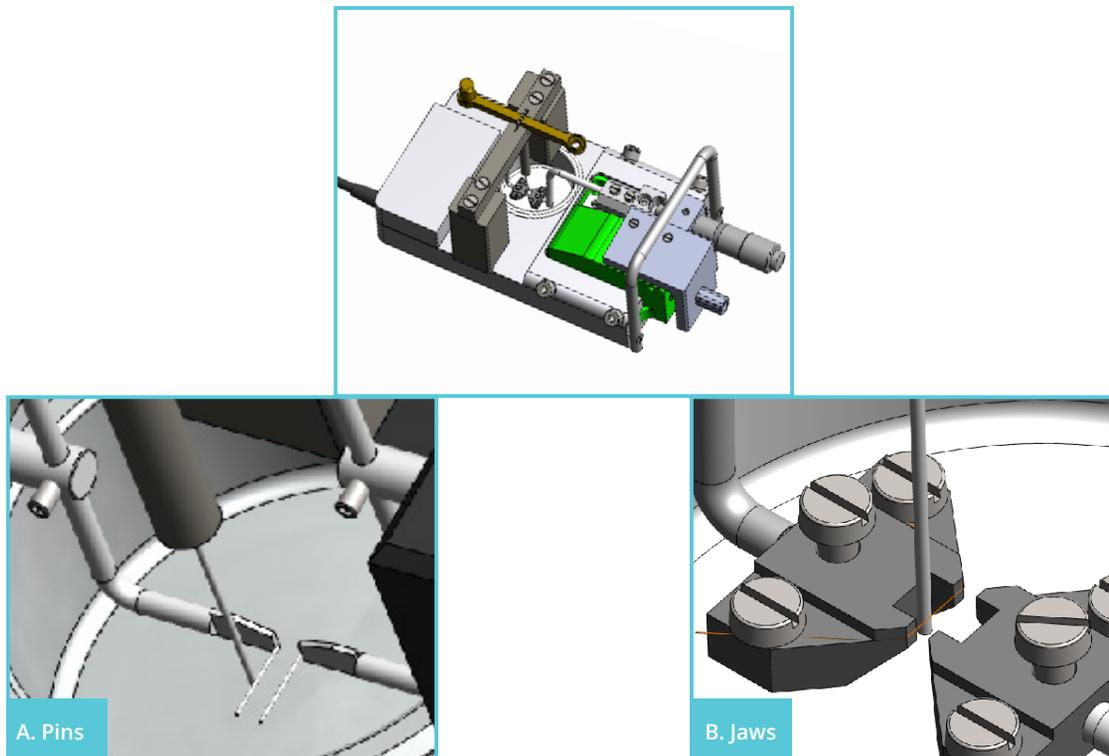

Figure 4.7 - Illustration of the proper placement for the balance transducer arm for calibration
3. When the system reaches target temperature, adjust the calibration kit so that the tip of the transducer arm is as close to the wire (if jaws are being used) or pin on the transducer side as possible without touching, as illustrated in Figure 4.7. One way to do this is to use the following technique. Start with the calibration kit in place so that the transducer arm of the bridge with the pans is not touching any part of the jaw or wire (if the jaws are being used) or not touching any part of the pins. Go to the main menu displaying the forces, and zero the channel being calibrated so the force reads zero. Slowly and gently slide the calibration kit forward toward the micrometer so that the transducer arm rests